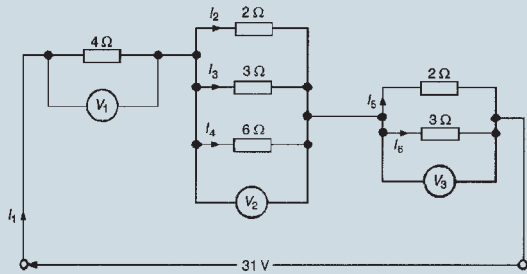

Figure 7.33
9. Determine the currents and voltages indicated in the circuit shown in Fig. 7.33.